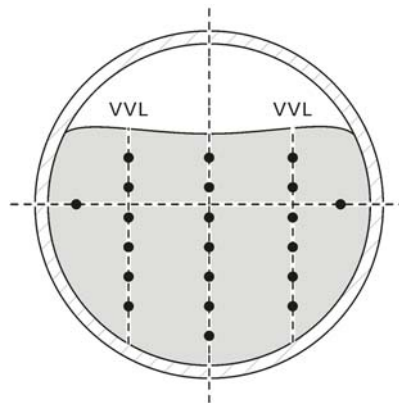

Figure 14 Velocity profiling for the 2D method
2. Find vertical velocity lines (VVL) that are halfway between the center line and the side walls of the pipe (refer to Figure 14). Use the widest part of the flow.